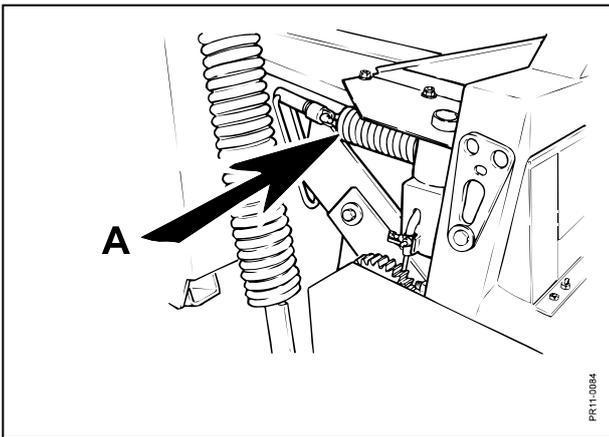

Fig. 3-25
**Fig. 3-25** In order to ensure a suitable roller pressure, both by large and small quantities of grass, the upper roller is spring-loaded and the springs also give the rollers the possibility of receding when foreign matter get between the rollers.